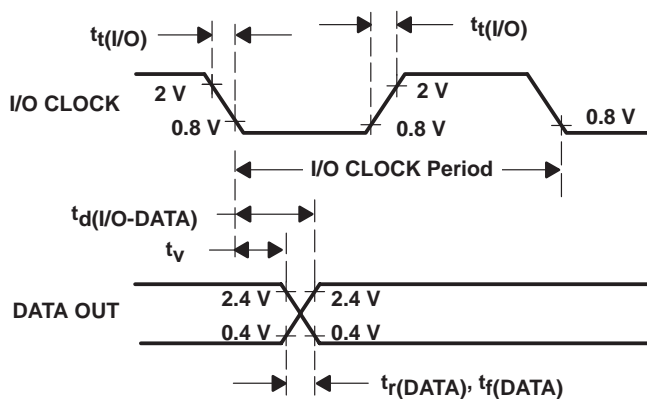

Figure 6. I/O CLOCK and DATA OUT Voltage Waveforms
- I/O CLOCK period = 1/(I/O CLOCK frequency) (see Figure 6)